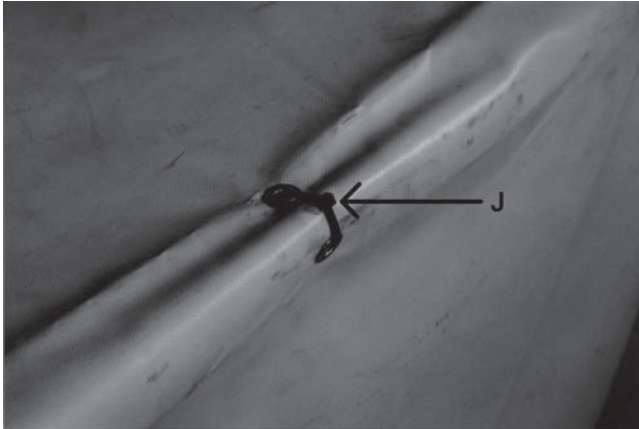

Figure 7
9. Place the cover sheet over the assembled frame and secure the sheet in place with plastic ties through grommets around cover frame at all locations. (See **Figure 7**.) DO NOT OVERTIGHTEN PLASTIC TIE.